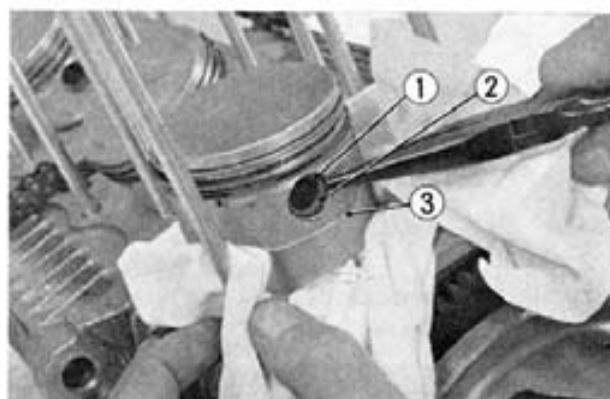

Fig. 3-58 ① Piston pin clip ③ Piston
2. Remove the piston pin clip, push out the piston pin and remove the piston from the connecting rod. (Fig. 3-58)